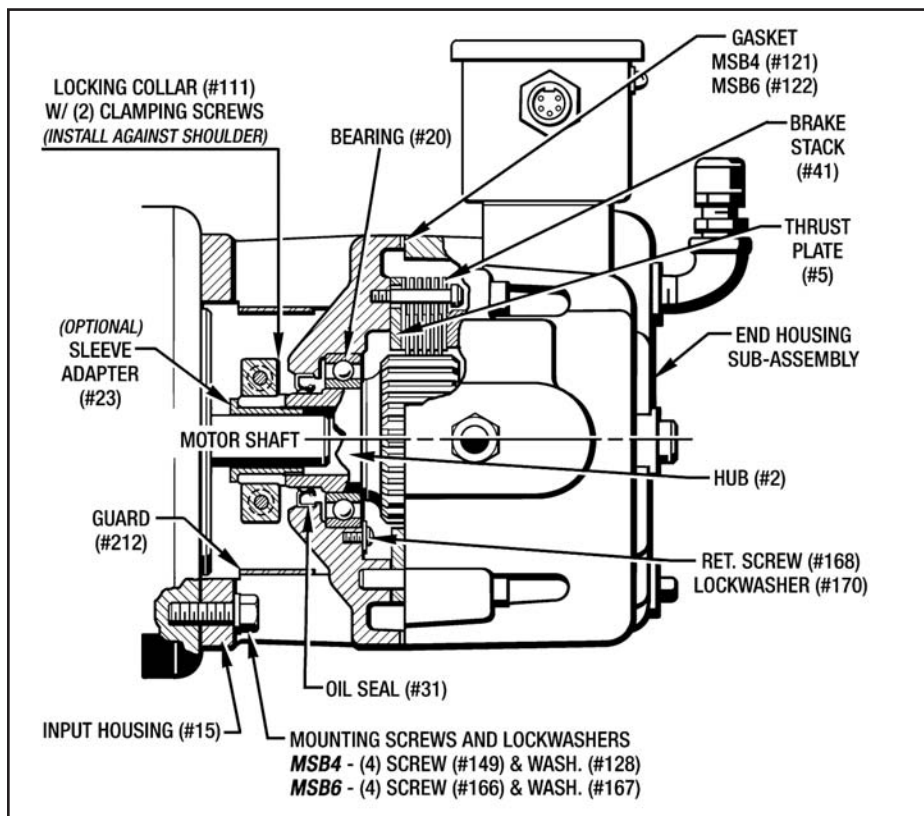

Figure 7.9 - Mounting MSB4 and MSB6 Back On The Motor
7-11 REPLACING OIL SEAL AND BEARING FOR MSB4 AND MSB6 (See Figures 7.9, 8.3 and 8.4)
11. Push the Locking Collar (#111) on to the Hub (#2) up against the shoulder as shown in *Figure 7.9* and just finger tighten the (2) Screws at this time.